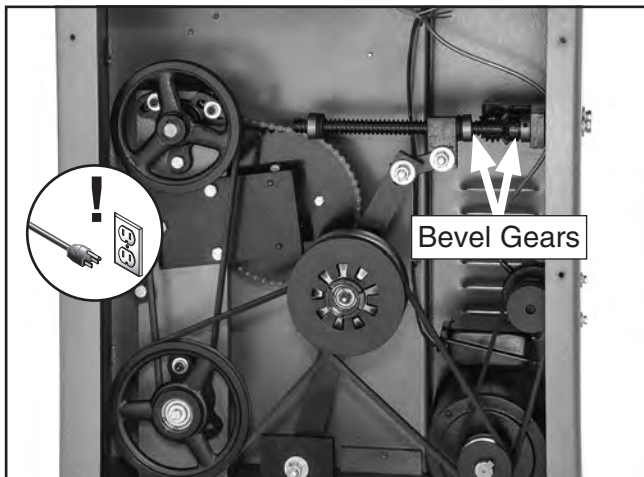

Figure 66. Location of bevel gears.
2. Remove the rear lower access panel, and loosen both bevel gear locking set screws (see **Figure 66**) just enough to adjust the bevel gears.